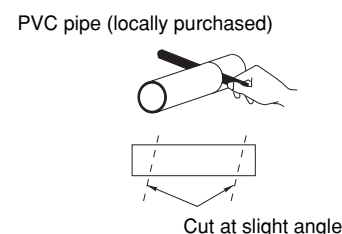

Fig. 3-23
- (5) Measure the thickness of the wall from the inside edge to the outside edge and cut PVC pipe at a slight angle 1/4" shorter than the thickness of the wall. (Fig. 3-23)